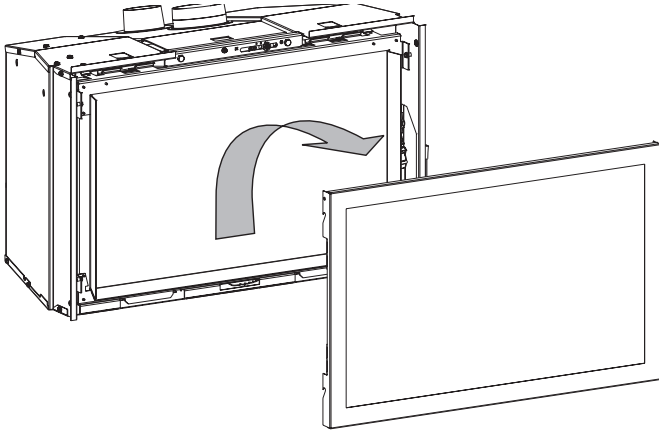

Figure 16
18. Remove barrier screen assembly by lifting the screen assembly and pulling it toward you. See Figure 16.